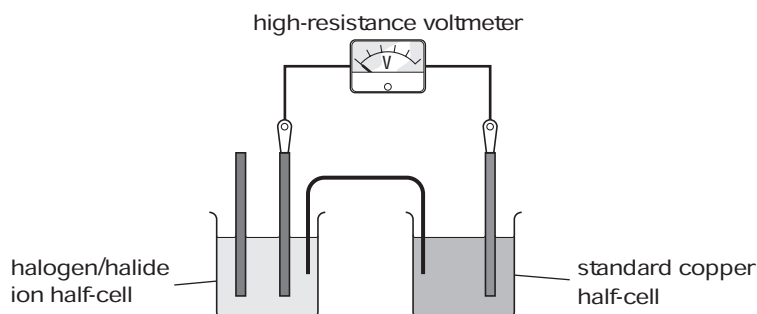

Figure 2 Arrangement for measuring the potential difference between a halogen/halide ion half-cell and a standard copper half-cell
- 5 Link the halogen/halide ion half-cell to the standard copper half-cell by connecting a high-resistance voltmeter into the circuit as shown in Figure 2. Record the voltage of the cell. Note whether the iodine/iodide half-cell is positive or negative with respect to the copper half-cell.